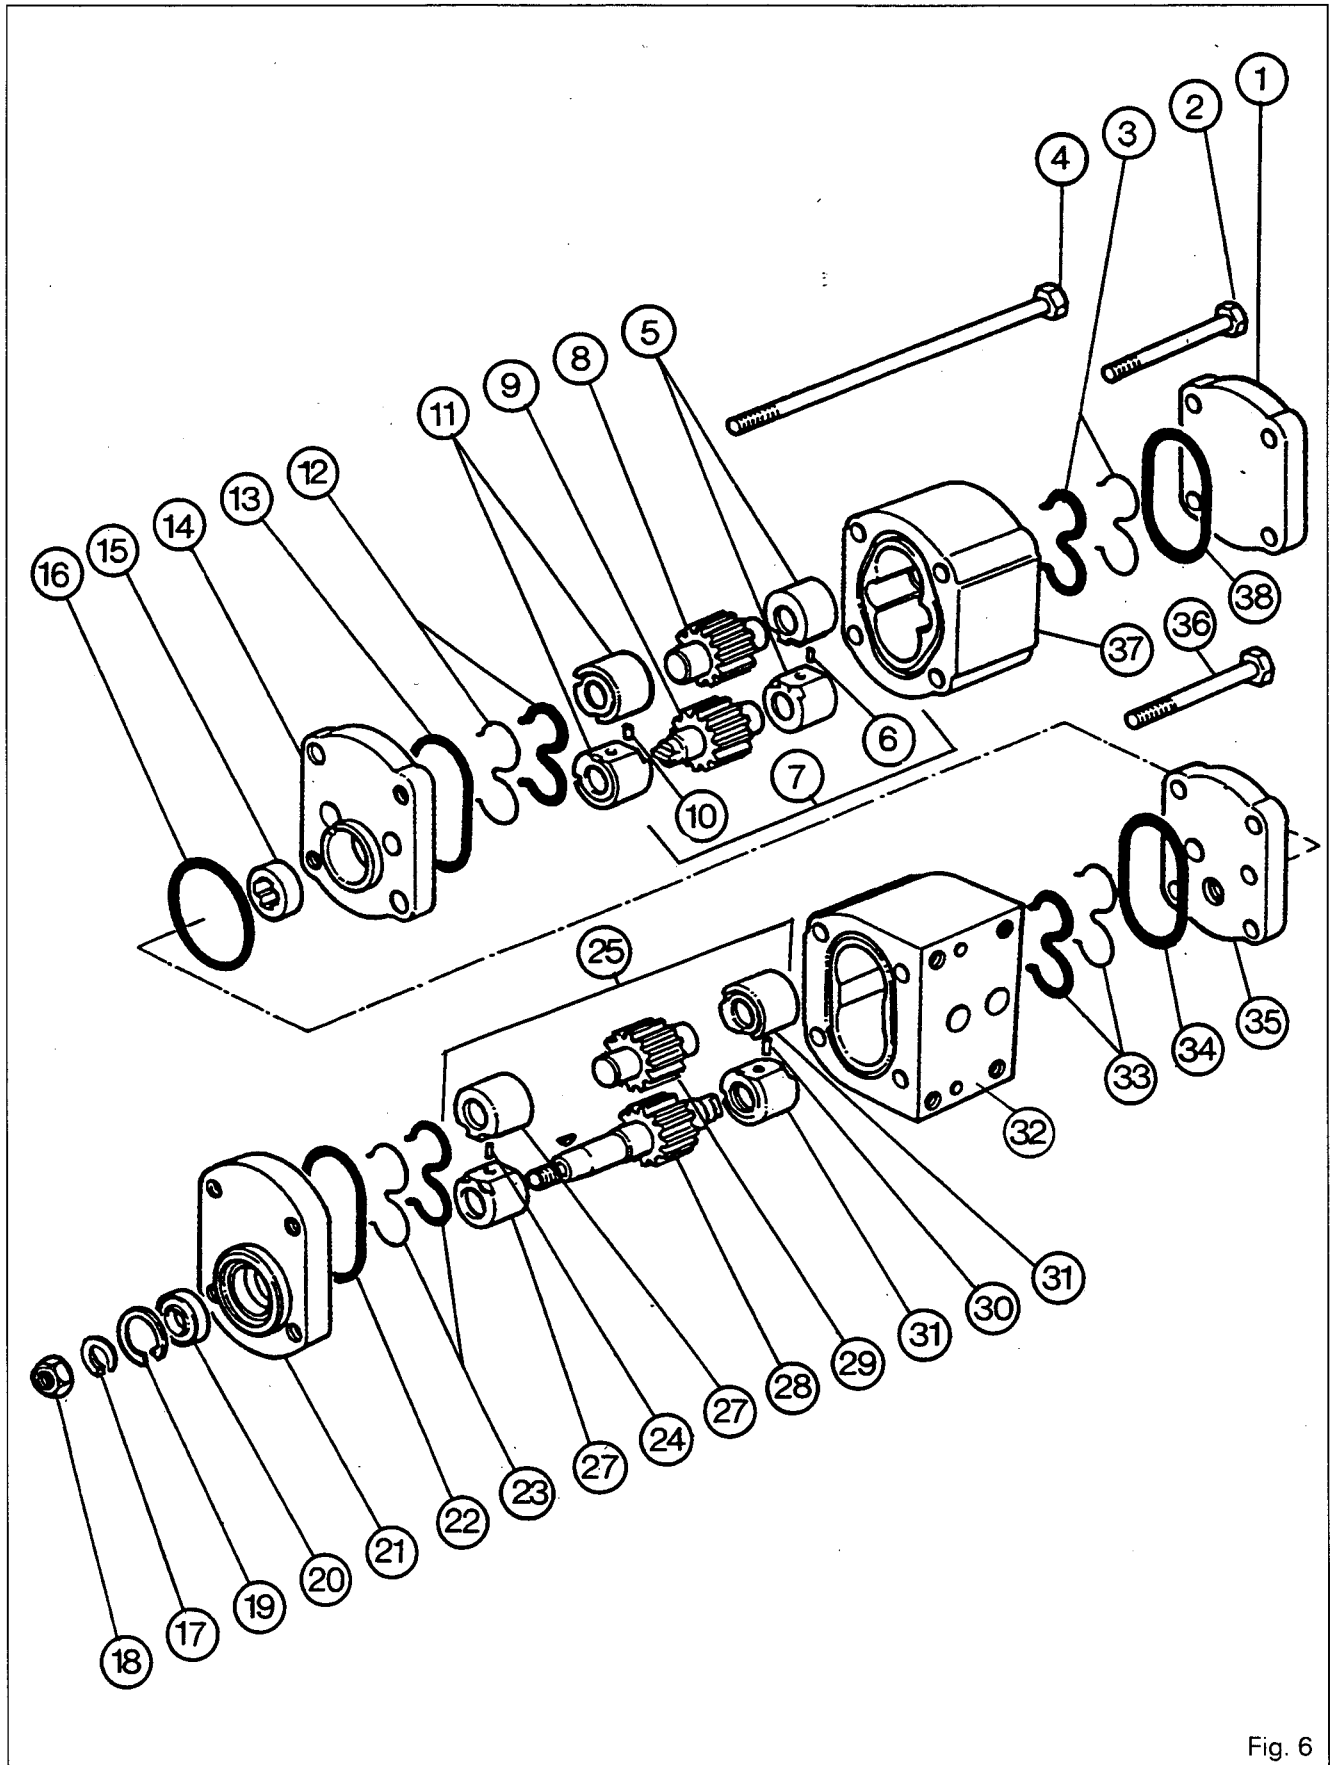

Fig. 6
Disassembly (Fig. 6)
**Hydraulics - RH hydraulic cover****F. Reassembly and refitting of pump****Reassembly (Fig. 6)**